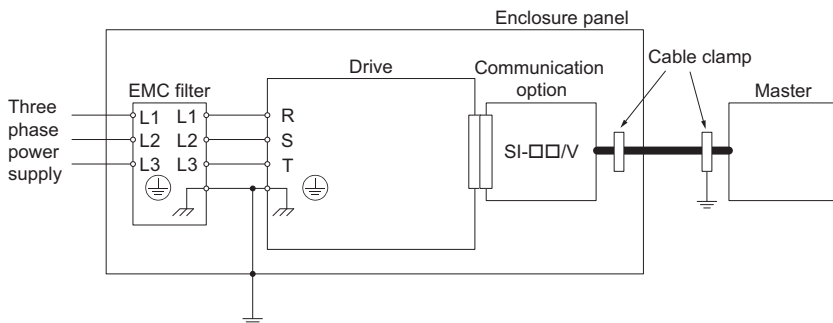

Figure 25 Option Installation for CE Compliance
2. Keep wiring as short as possible and ground the largest possible surface area of the shield to the metal panel according to Figure 25.